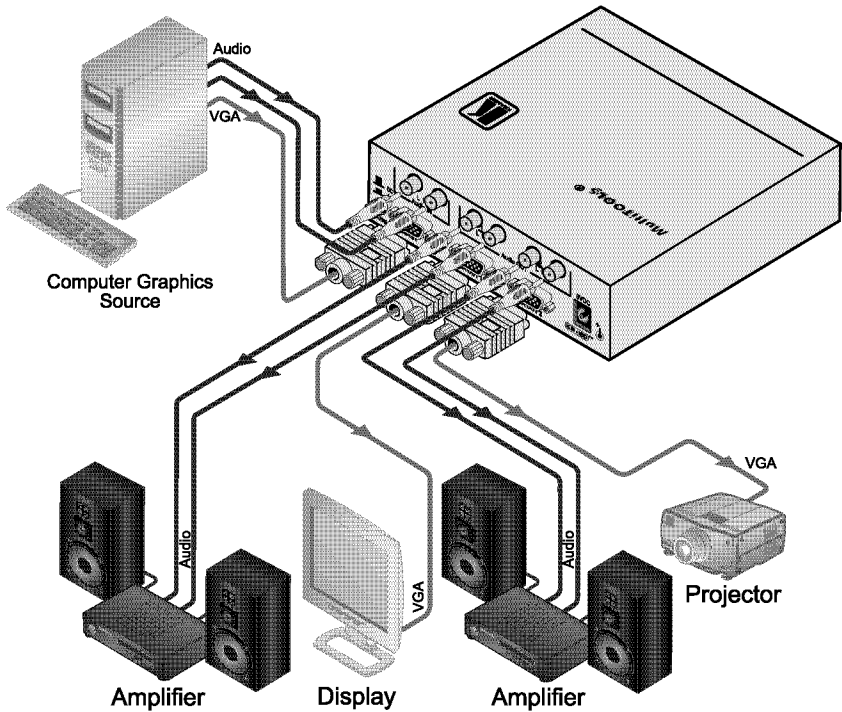

Figure 2: Connecting the VP-2K 1:2 UXGA / Audio Distributor
To connect the **VP-2K**, as the example in *Figure 2* illustrates:
1. Connect a computer graphics source to the UXGA IN 15-pin HD (F) connector and to the R and L AUDIO IN RCA connectors.
2. Connect the UXGA OUT 15-pin HD (F) connectors to up to 1 two acceptors (for example, a display and a projector) and connect the respective R and L AUDIO OUT RCA connectors to audio acceptors (for example, two amplifiers with speakers).
3. Connect the 5V DC power adapter to the power socket and connect the adapter to the mains electricity (not illustrated in *Figure 2*).